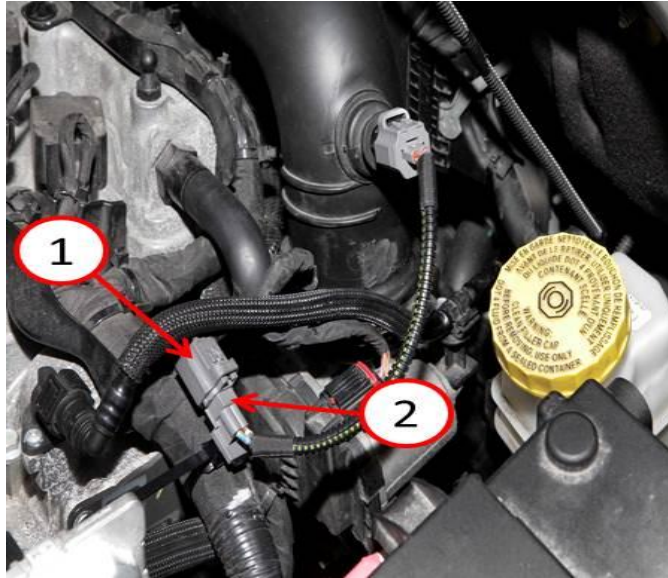

Fig. 4 IAT Connector And Jumper Connected
7. Position the opening of the IAT connector away from the engine, see (Fig. 4).